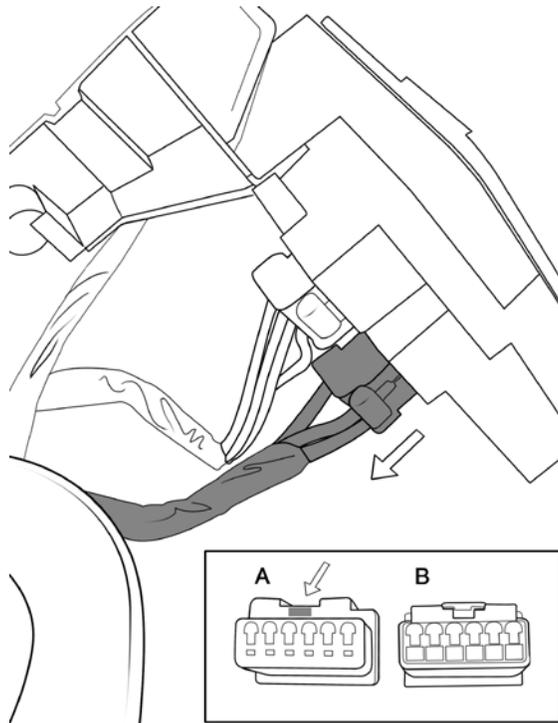

Figure 49
- d. Remove the six wire connector from clock spring. It should look like A, trim the top of A to look like B (fig 49).